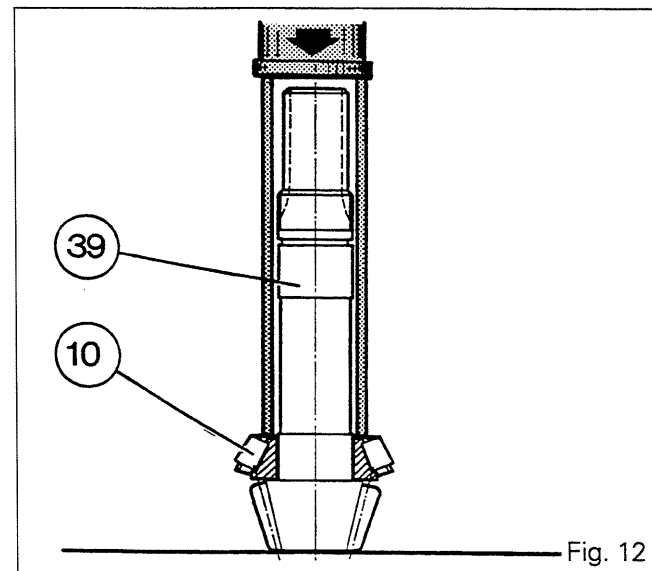

Fig. 12
**Note: Make sure that the bearing cone (10) is correctly seated in the cup (9).**
41. Fit the cone fully home against the shoulder on the drive pinion, using a press and a suitable fixture (Fig. 12).
42. Place previously calculated thickness of shims (8) in the housing.
43. Fit the cup (9) using a suitable fixture.